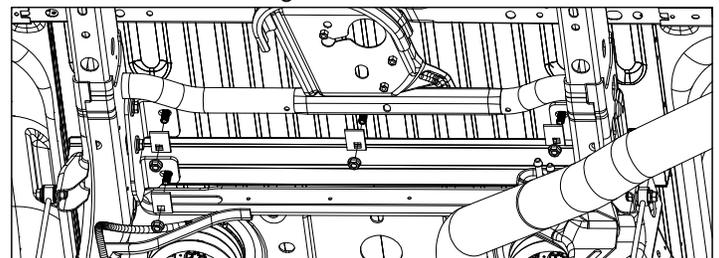
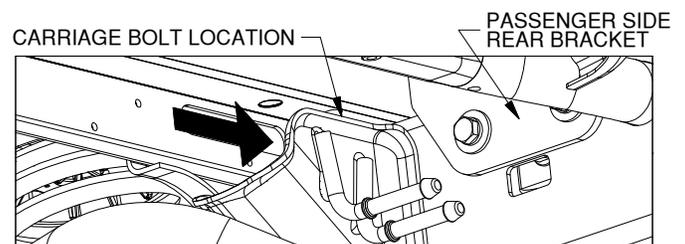

FIGURE C6: View looking up at the bottom of the truck bed.
FIGURE C7: View looking at passenger side frame and bed crossmember
- Fasten the rear mounting rail.** Install an offset square hole washer and 1/2" flange nut on each of the carriage bolts passing down through the bed as shown in figure C6. Do not tighten at this time. The passenger side 1/2" x 4 1/2" carriage bolt can be accessed from a space in the frame geometry next to the bolt, see figure C7. Use the space to thread the offset square hole washer and 1/2" flange nut. Use a box end wrench to tighten this nut.